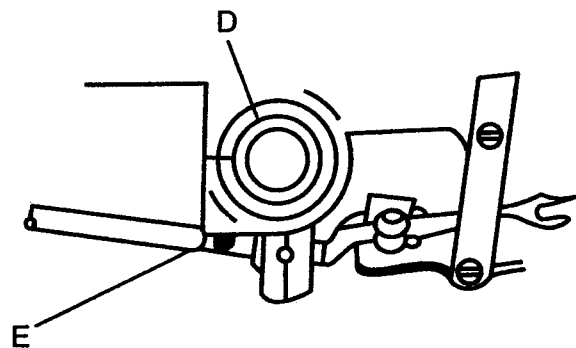

Fig.20
d) When the looper is at the looper groove of the presser foot, adjust looper ball joint adjusting sleeve(Fig20-D) so that the needle passes between the prongs of looper.